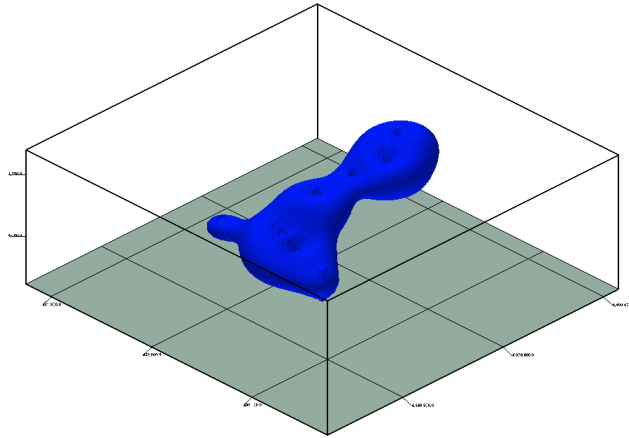

Figure 73
- Pressing the *Continue* button will produce a diagram (Figure 73) that depicts an interpolated plume isosurface for Dioxane values greater than 10 ppt.